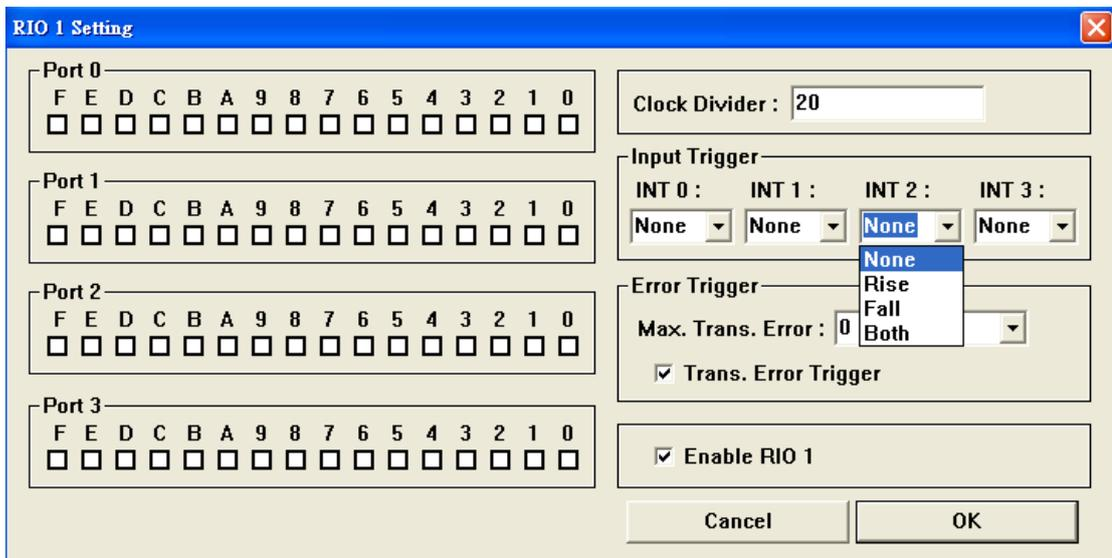

Figure 4-8.2
(2) Set remote I/O clock divider (as shown in Figure 4-8.2)
This is to set the transmission clock of the remote serial I/O module(s). In Figure 4-8.2, RIO 1 Clock Divider is the transmission clock divider of RIO set 1. When Clock Divider is set to N, the transmission clock can be determined by equation (10):
(3) Set Remote I/O trigger control (as shown in Figure 4-8.2)
Each remote serial I/O module has 4 inputs which can be programmed for interrupt. The interrupt trigger mode can be rising edge trigger (Rise), falling edge trigger (Fall), or level change trigger (Both). In Figure 4-8.2, INT 0 ~ INT 3 are the 0th to the 3rd inputs respectively.